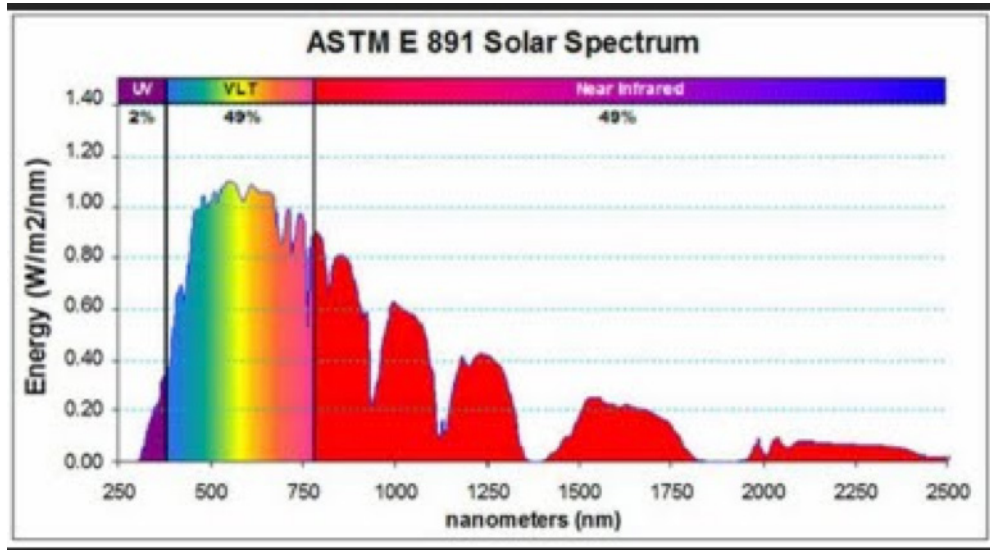

Figure 2. Solar Spectrum
We must remember that “sunlight” is comprised of different components, ultra violet (UV), visible light and infrared, refer to Figure 2. These components are associated with different thermal loads and different wave lengths which are not part of this discussion. However, note that sunlight reflected off exterior cladding materials carries all three components at different scales based on material properties. For these reasons, designers must be qualified and account not only for all factors mentioned here but also for different criteria to meet building code, industry standards, design intent, and desired performance. The building context and intended use, play a major role in the overall outcome.